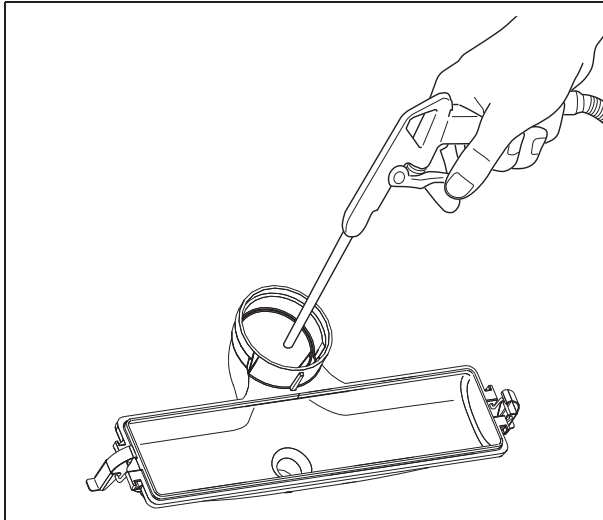

Fig. 91 Cleaning the condensate collector
- Clean the condensate collector mechanically (using compressed air or a soft brush) and rinse it with clean water (fig. 91).